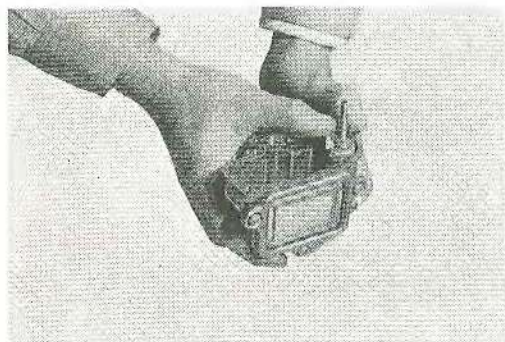

Figure 137
- (11) Assemble on accelerating pump (Fig. 137).